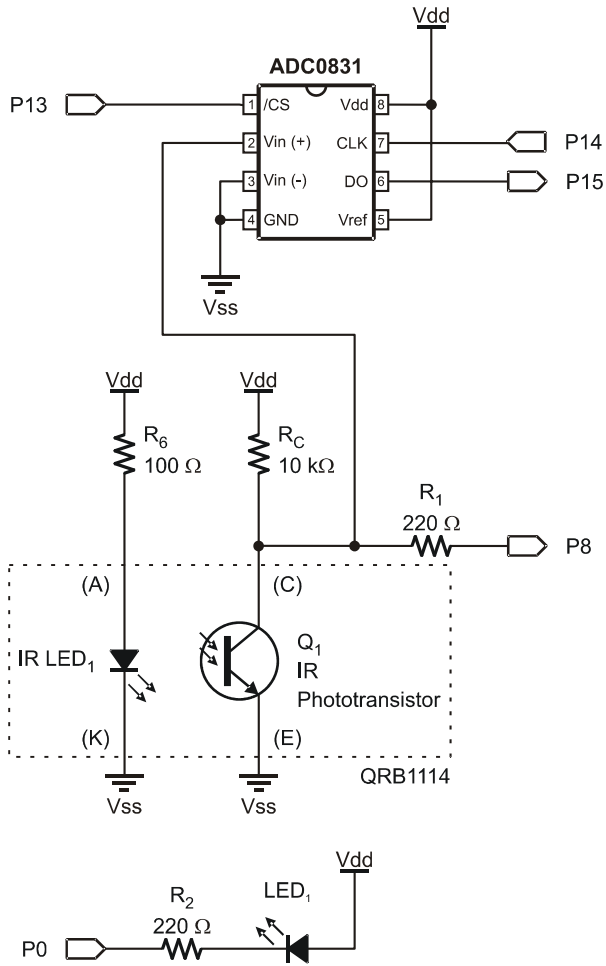
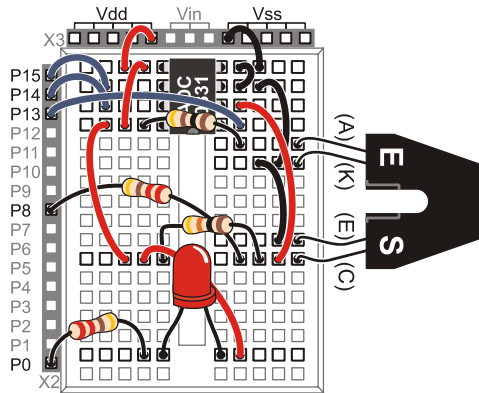

Figure 4-2
Figure 4-3
- (1) LED – Red
- √ Construct the circuit shown by the schematic in Figure 4-2 and the wiring diagram in Figure 4-3. Note that Q_1 and the IR LED are both inside the QRB1114. Set aside the 100 k Ω and 1 M Ω resistors for now.